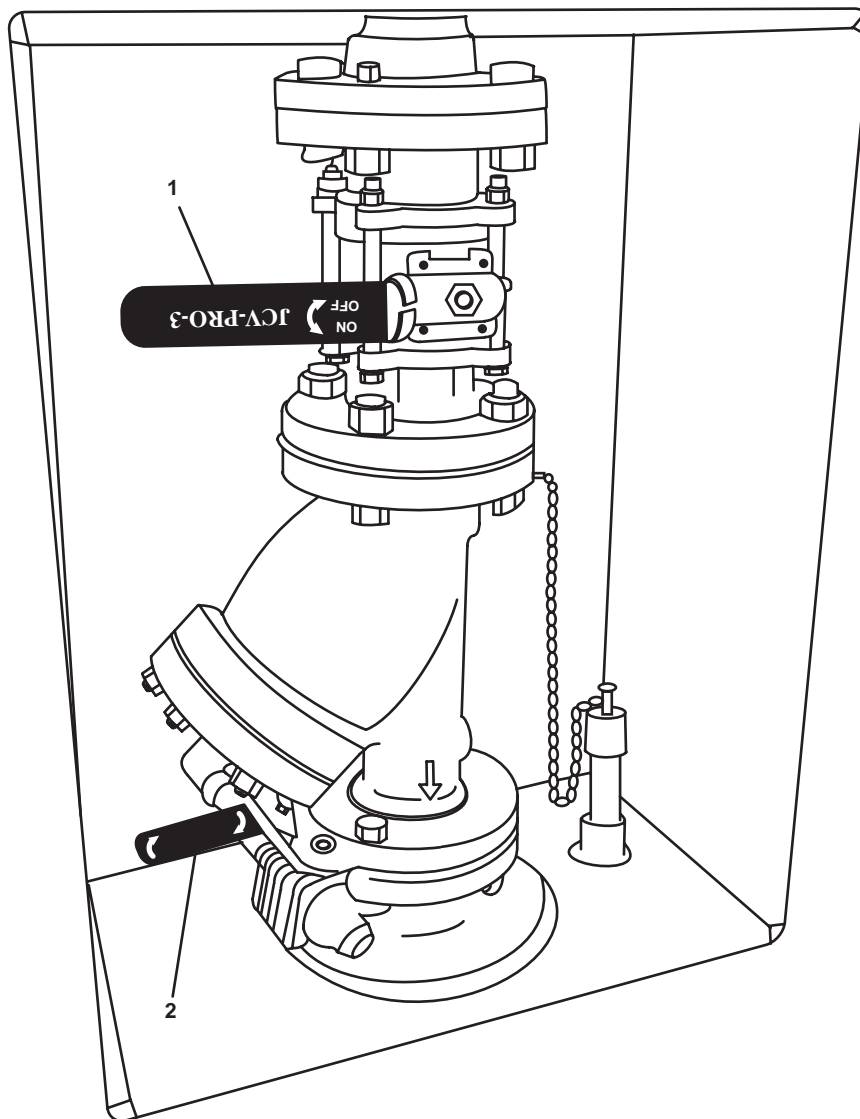

Figure 2. WWS Control Station
5. OPEN WWS-1 (figure 2, item 1), located in the main deck vestibule, starboard side, to activate the Engine Room Water Washdown System (ERWWS).